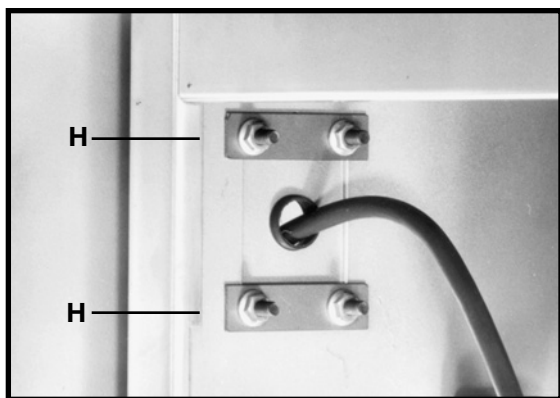

Fig. 7
**NOTE:** Position the switch adapter plates (H) inside the shaper cabinet (Fig. 7).